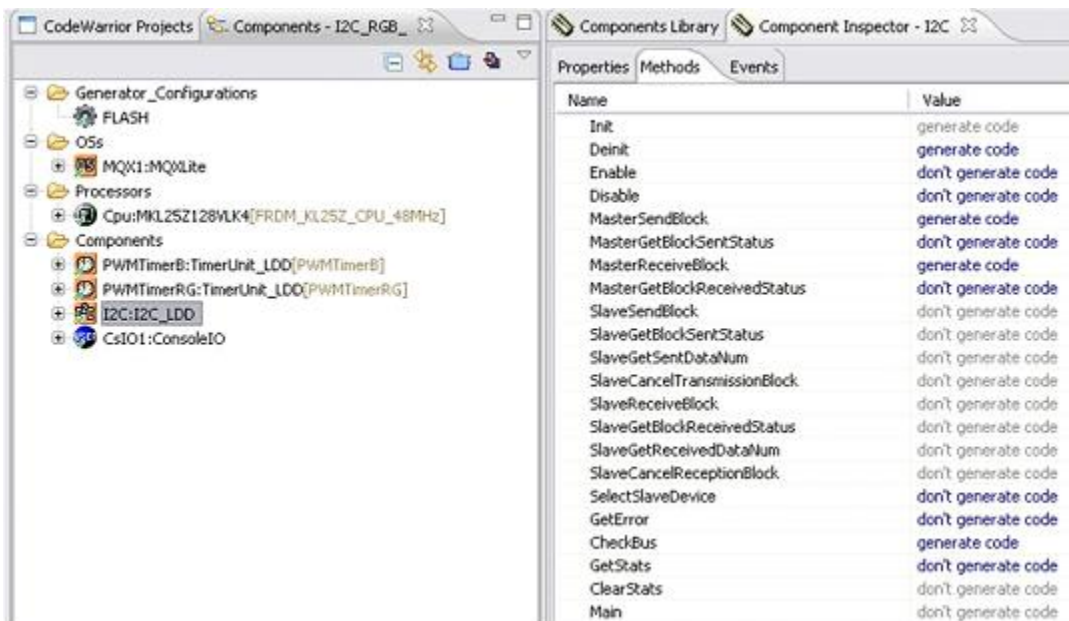

Figure 37. The I2C methods creation definition
- For the I2C_LDD components it is necessary to define the functions added by the auto-generated code. To do this click on the Methods tab under the Component Inspector. Figure 37 shows the correct configuration for the methods creation.